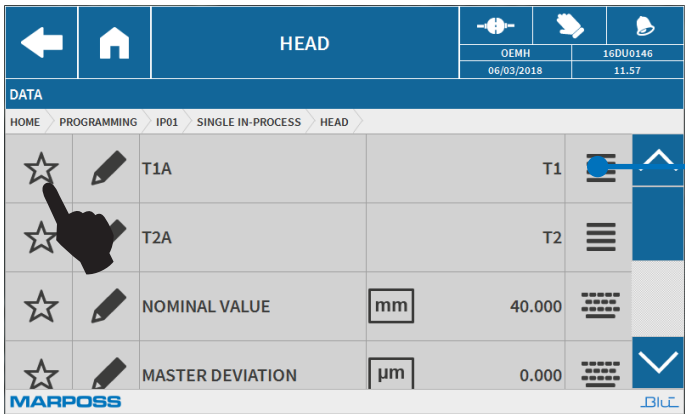

Fig.13. Assigning a parameter to the “Favourites” list.
- Each parameter is accompanied by a “star” icon (see Fig.13);